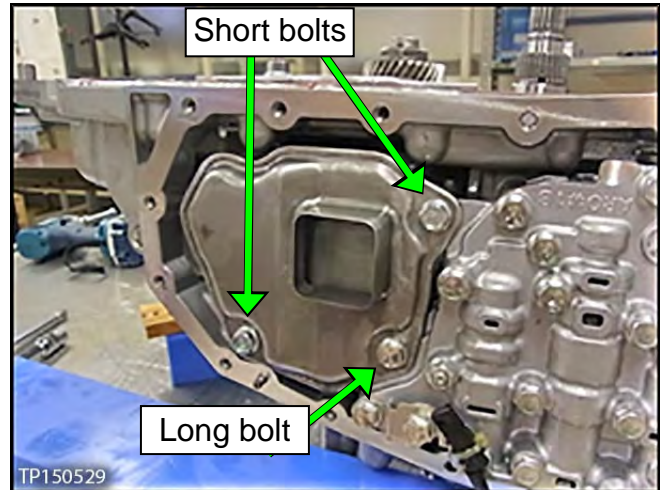

Figure 28
3. Remove the three (3) oil strainer mounting bolts, and then remove the oil strainer with O-ring (see Figure 28).